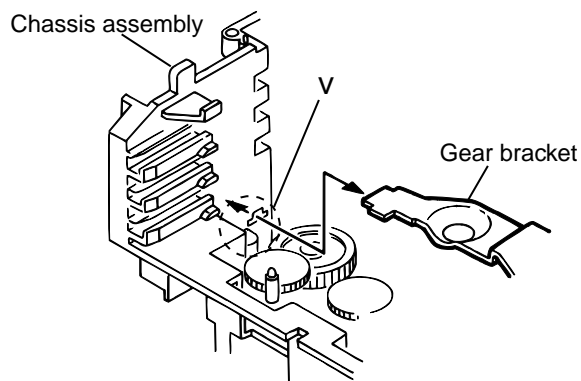

Fig.20
3. From the notch "v section" on the chassis assembly fixing the edge of gear bracket, remove and take out the gear bracket (See Fig. 20).